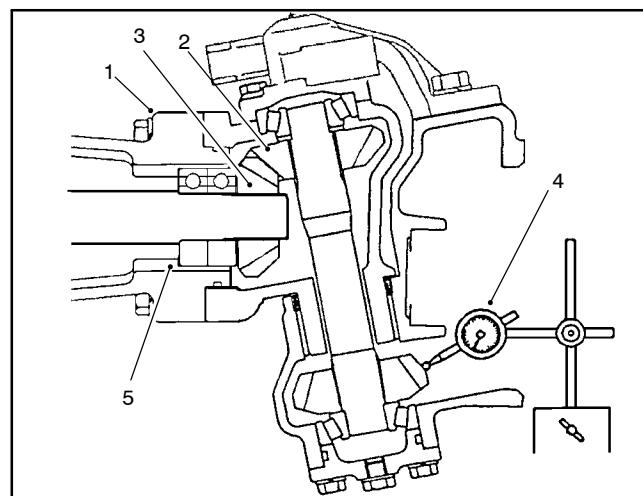

Figure 19
7. Temporarily install the bevel gear case/axle case assembly on the axle support. Position a dial indicator at the teeths center. Prevent the axle from turning and measure the upper bevel gear to differential shaft gear backlash (Fig. 19).